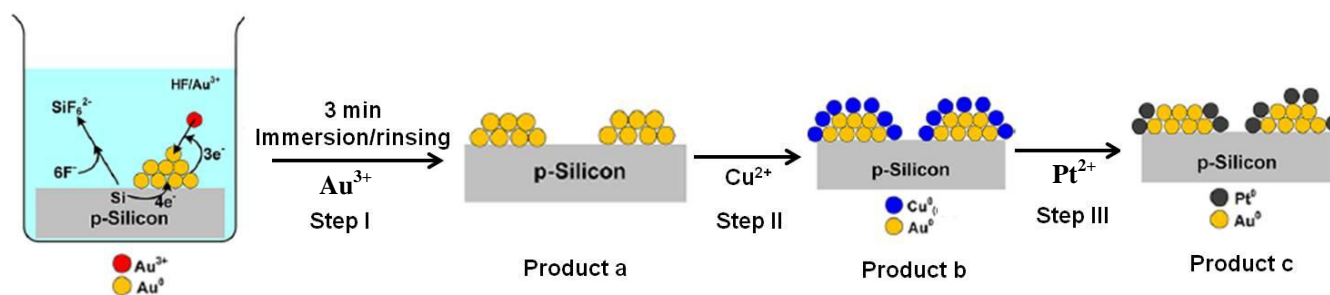

Figure 6
**Q. 5.** Schematic representation for the fabrication of Pt(0) decorated Au nanofilm on p-silicon is given in Figure 6, which consists of three steps. All the different color spherical balls are represented for different meaning. Product a, b, and c are Au nanofilm on p-silicon, Cu(0) decorated Au nanofilm on p-silicon, and Pt(0) decorated Au nanofilm on p-silicon, respectively.